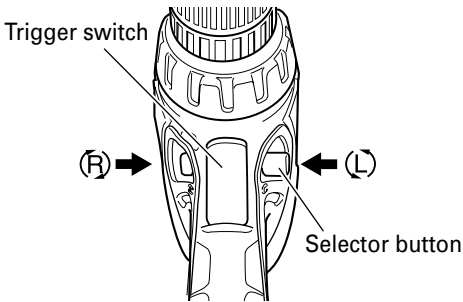

Fig. 11
The bit rotates clockwise (viewed from the rear side) by pushing the R-side of the selector button. The L-side of the selector button is pushed to turn the bit counterclockwise (See Fig. 11). (The (L) and (R) marks are provided on the selector button.)